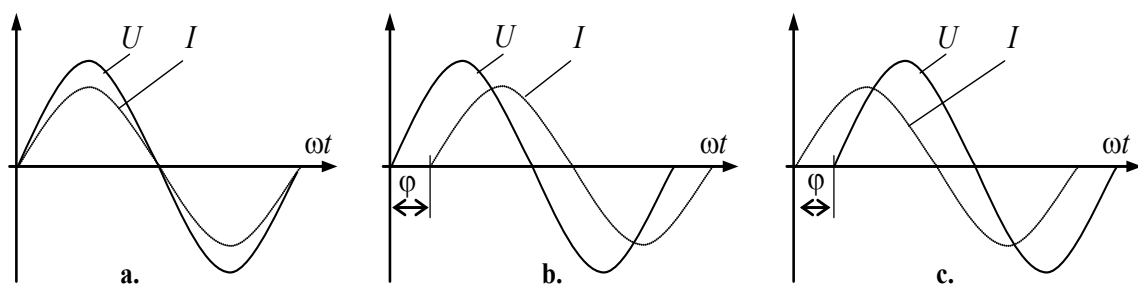

Fig. 2.3
**Loads.** Every electronic circuit drives a *load* connected to the output. There are three kinds of loading. The load can be entirely ohmic (*resistive load*). There is no displacement between the current and the voltage of the load in this case, as shown in Fig. 2.3,a. When the load is ohmic-inductive (*resistive-inductive load*), the current is delayed in time compared to the voltage (Fig. 2.3,b). When the load is ohmic-capacitive (*resistive-capacitive load*), the current is time-wised in advance of the voltage (Fig. 2.3,c).